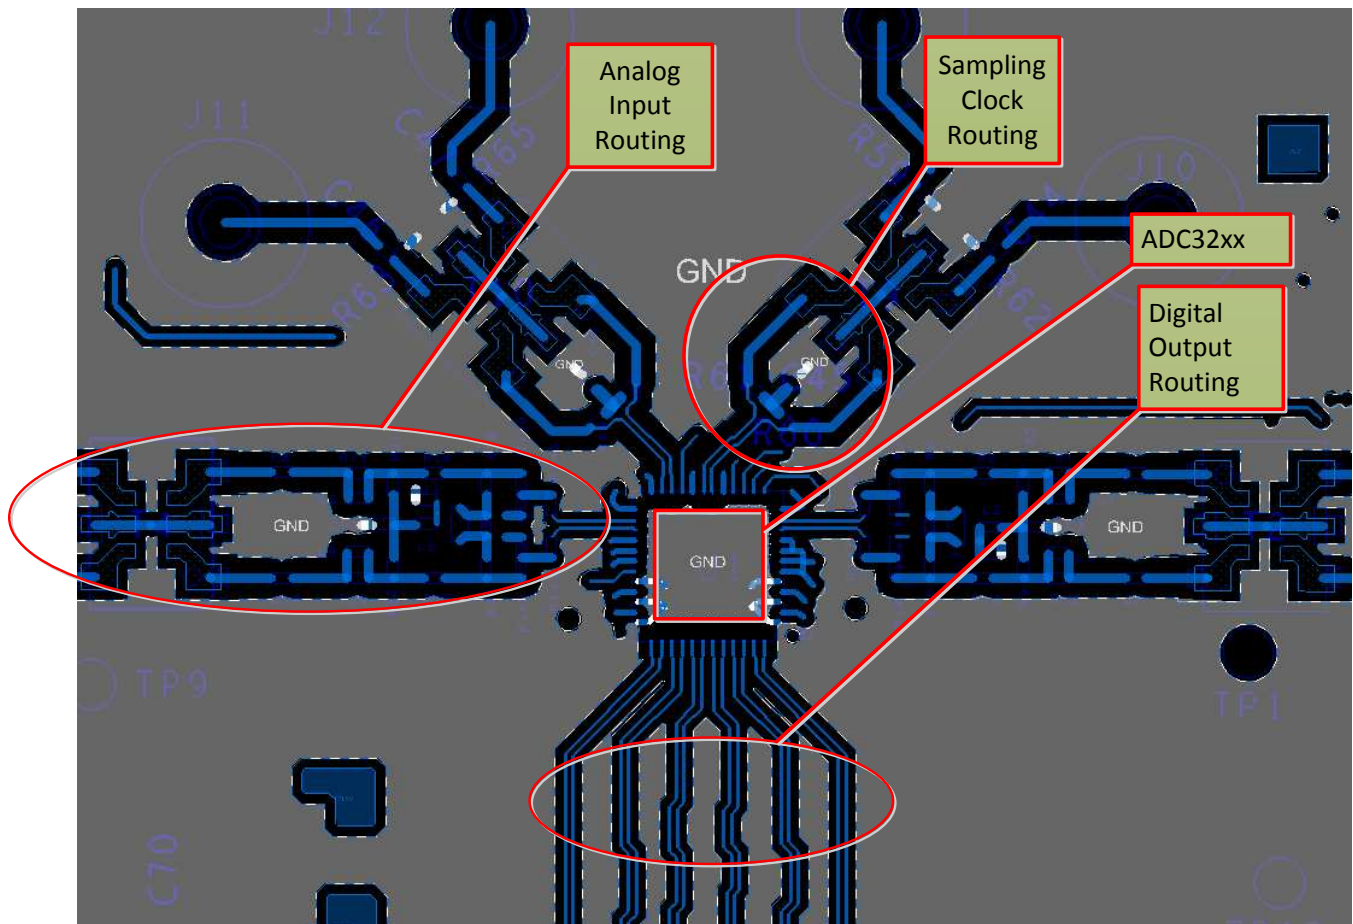

Figure 181. Typical Layout of the ADC322x Board
The ADC322x EVM layout can be used as a reference layout to obtain the best performance. A layout diagram of the EVM top layer is provided in Figure 181. Some important points to remember during laying out the board are:
1. Analog inputs are located on opposite sides of the device pin out to ensure minimum crosstalk on the package level. To minimize crosstalk onboard, the analog inputs must exit the pin out in opposite directions, as shown in the reference layout of Figure 181 as much as possible.
2. In the device pin out, the sampling clock is located on a side perpendicular to the analog inputs in order to minimize coupling between them. This configuration is also maintained on the reference layout of Figure 181 as much as possible.